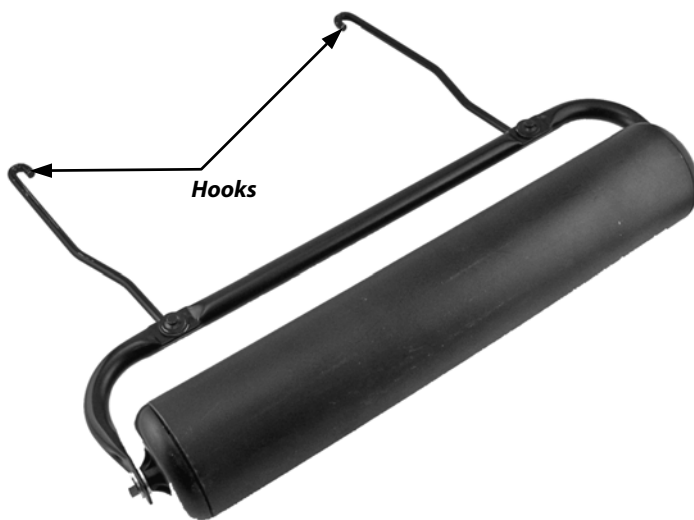
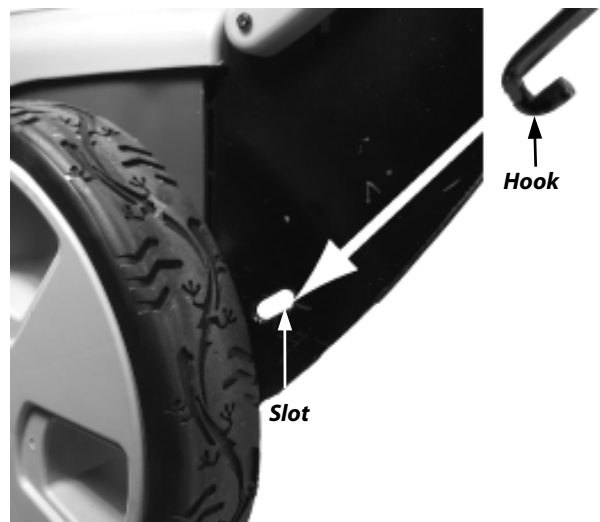

Figure 41
Figure 42
The Striper Roller (**Figure 41**) easily attaches with Hooks into pre-formed Slots (one each side) at the rear of the NEUTON Mower (**Figure 42**). You can use either the Bagger attachment (recommended) or the Mulching Plug (but not the Side Discharge Chute) with the Striper Roller.
3. Insert the Hooks into the Slots provided at the rear of the Mower (**Figure 42** on the previous page).